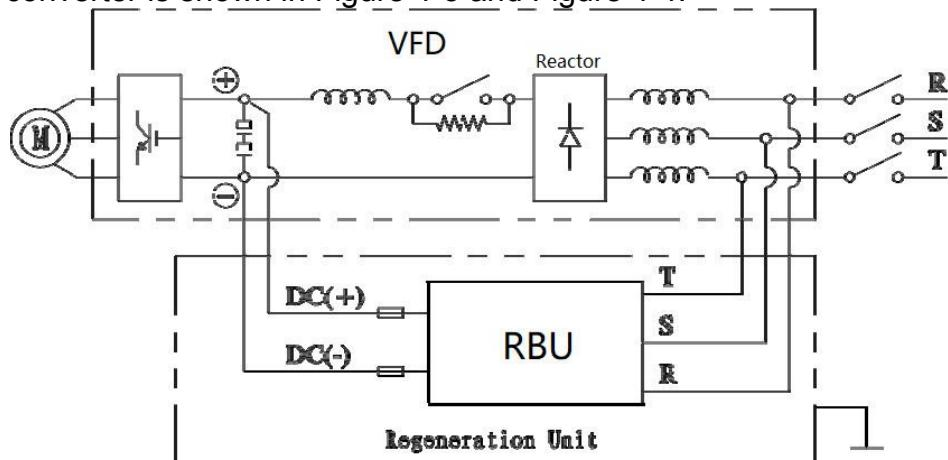
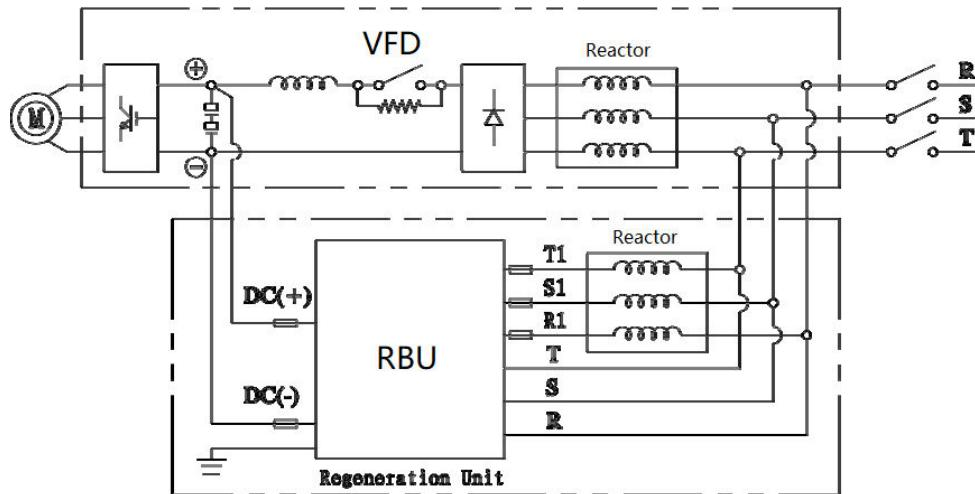

Fig 4-3 C2 C2/C3/C4 Wiring diagram or RBU and VFD
Fig 4-4 C5/C6 Wiring diagram of RBU and VFD
R、S、T	Refer fig 4-4 for connection detail.
R1、S1、T1	Refer fig 4-4 for connection detail.
2、The connection diagram of energy feedback device and frequency converter is shown in Figure 4-3 and Figure 4-4.